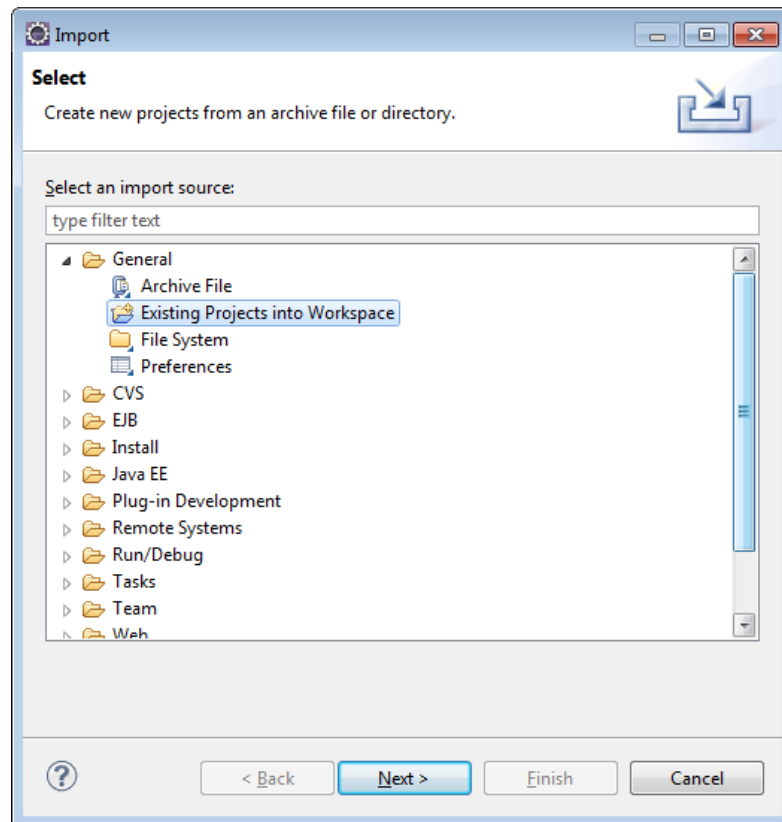

Figure 3: Eclipse Project import dialog 1
2. You have to import the appfs project first, because it is referenced by the traffic actuation and control center example projects. Select „File -> Import...“ in order to open the import dialog. Then select the entry “General” -> „Existing Projects into Workspace“ and click on Next (see Figure 3)